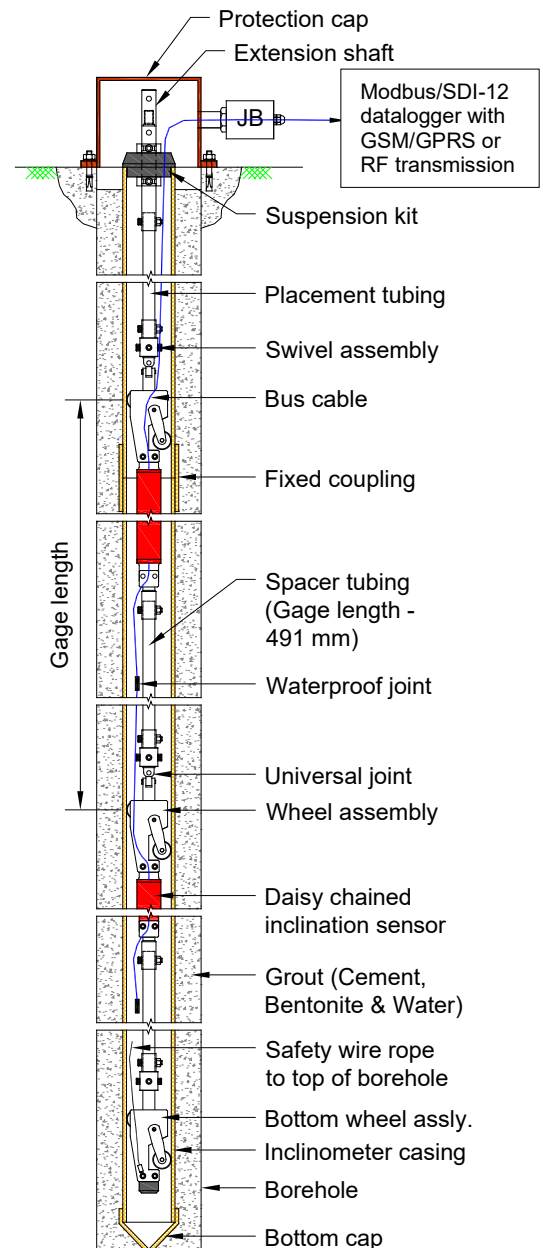
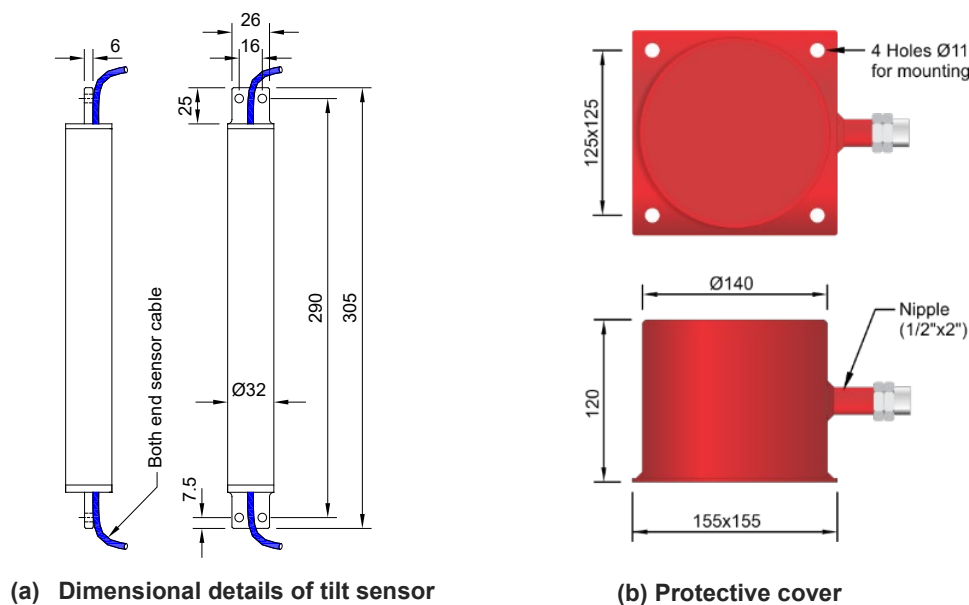

Figure 2-1 EAN-56M In-place inclinometer system (with SDI-12 and Modbus output)
Figure 2-2 Tilt sensor and cover details
Figure 2-1 shows a typical in-place inclinometer string assembly, figure 2-2(a) shows tilt sensor details and figure 2-2(b) shows protective cover details.
- Place the protective cover (figure 2-2(b)) over the concrete platform and mark location for the Hilti HLC-M10x80 fasteners provided. Remove the cover and install the four mounting fasteners on the marked locations (for mounting of the protective cover later).